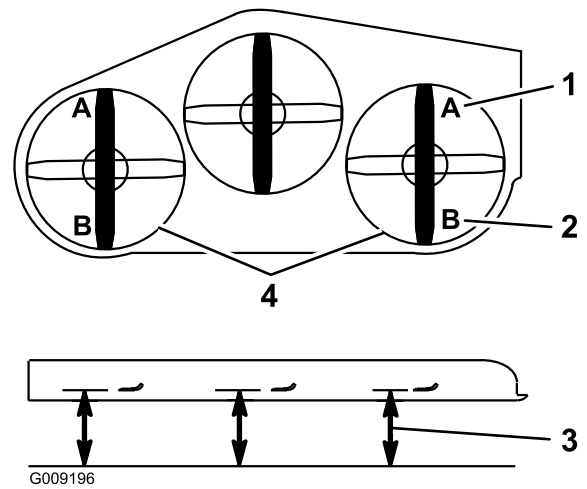

**Figure 89**
5. Push the deck-lift pedal all the way forward and the deck will latch at the 14 cm (5–1/2 inch) TRANSPORT position (Figure 89).